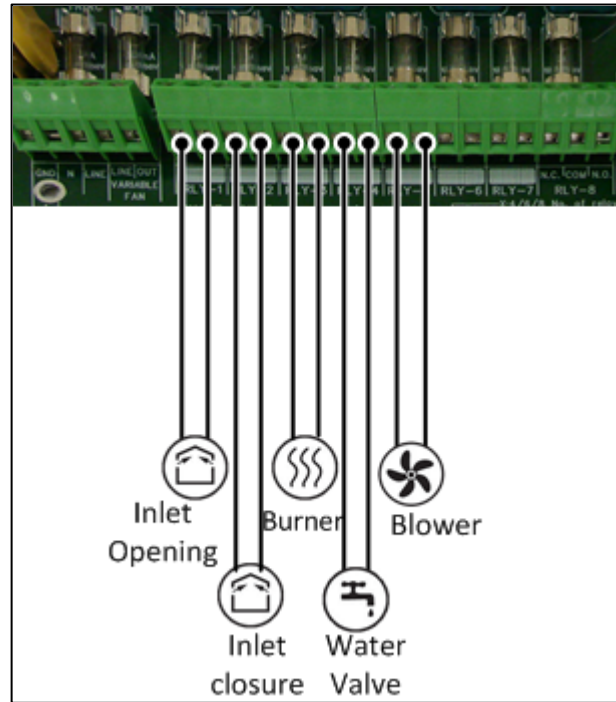

Figure 9: RTDC-8 Relay Wiring
- Figure 9: RTDC-8 Relay Wiring